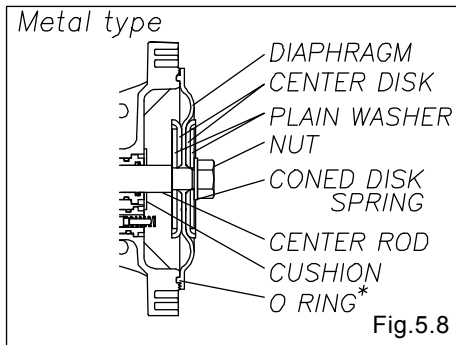
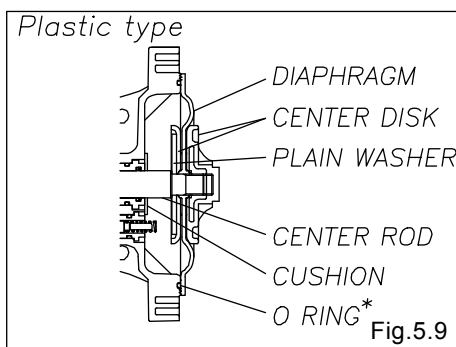

Fig.5.8
Fig.5.9
- For B\_H and B\_S, attach O ring \* into the grooves on both sides of the body. [Fig.5.8] [Fig.5.9]
- Draw the center disk to one side, (cf. Fig.5.8)and install the out chamber. Tighten the bolts temporarily.
- Draw the center disk to the opposite side, then turn the diaphragm over (cf. Fig.5.8). And install the out chamber. Tighten the bolts temporarily.